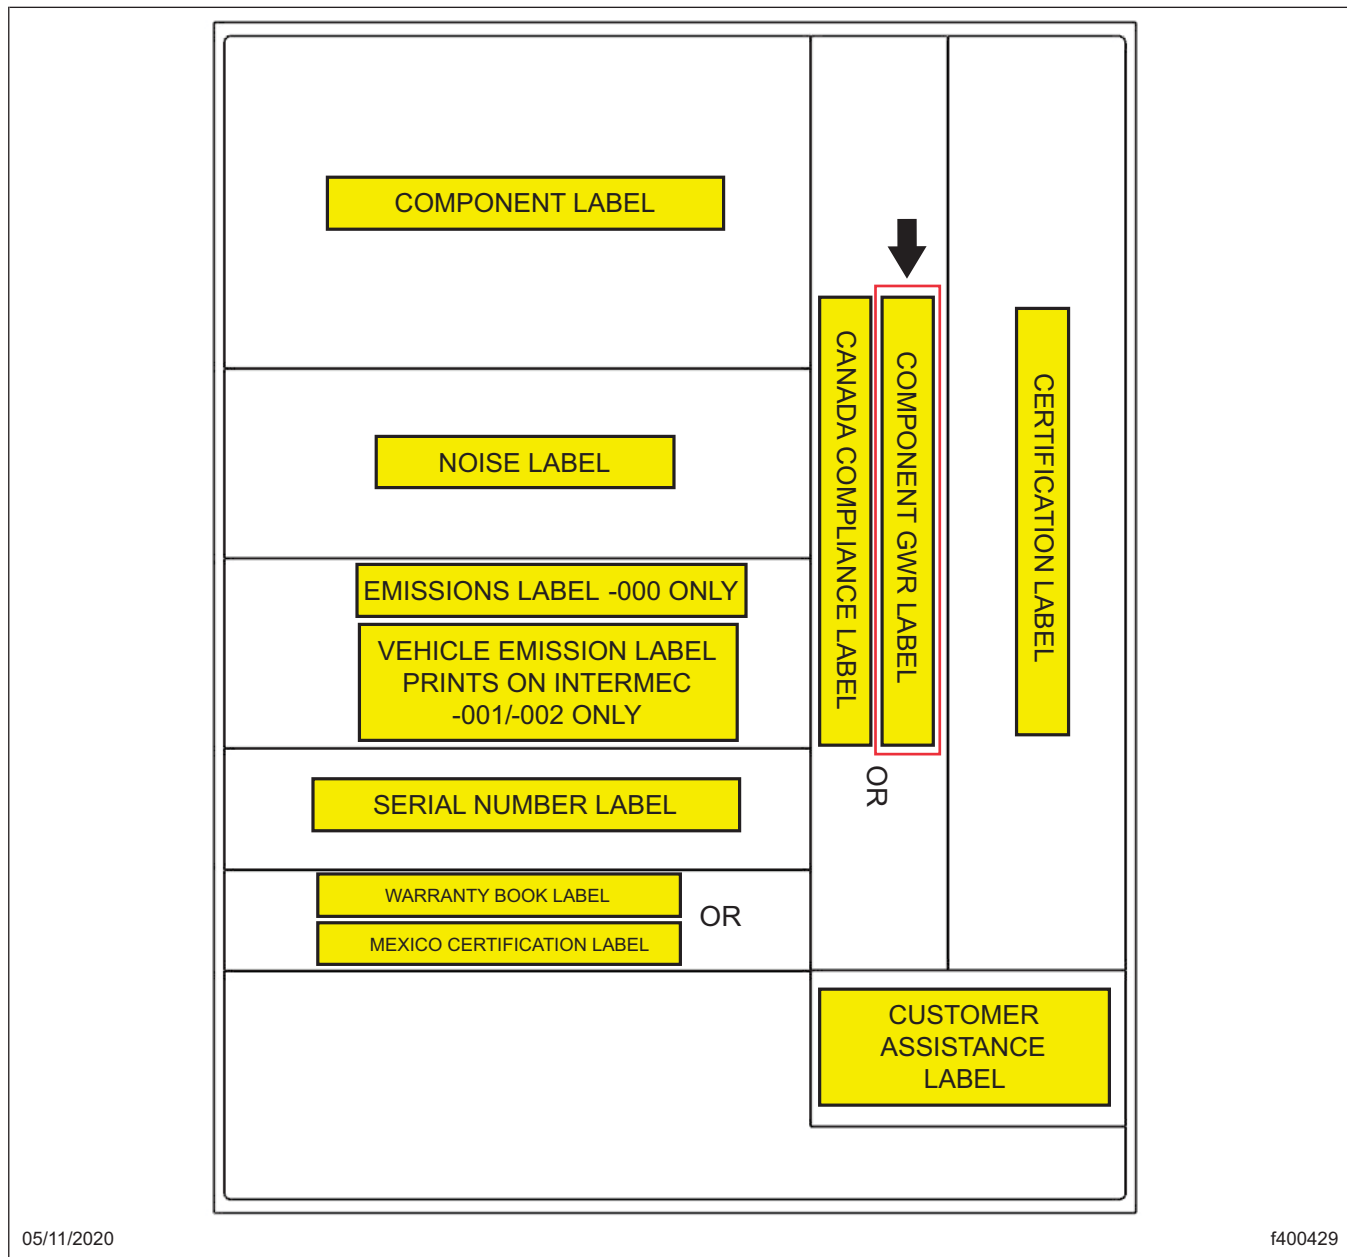

Fig. 6, Component GWR Label Location, Recall Kit, Freightliner
4. Locate the new component GWR label. See Fig. 6. Make sure the VIN on the current component GWR label matches the VIN on the new component GWR label.